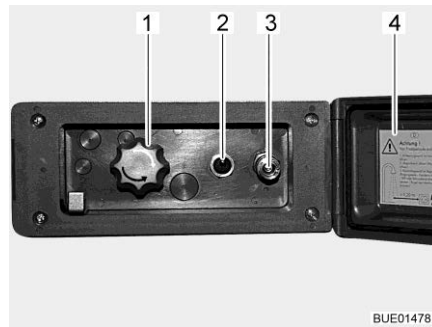

Fig. 128 External shower connection point
- Unlock and open the cover (Fig. 128,4).
- Attach hose of the external shower to the quick closure (Fig. 128,3).
- Switch on the water pump using the switch (Fig. 128,2).
- Adjust the water temperature with the rotary knob (Fig. 128,1) as desired.
- Switch off the water pump using the switch (Fig. 128,2).
- Close the cover (Fig. 128,4) and lock with key.
- Turn knob (Fig. 128,1) to the central position.